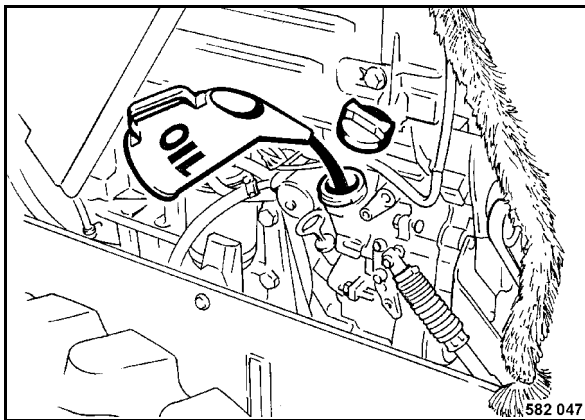

Fig. 74
- Fill in new engine oil (Fig. 74).